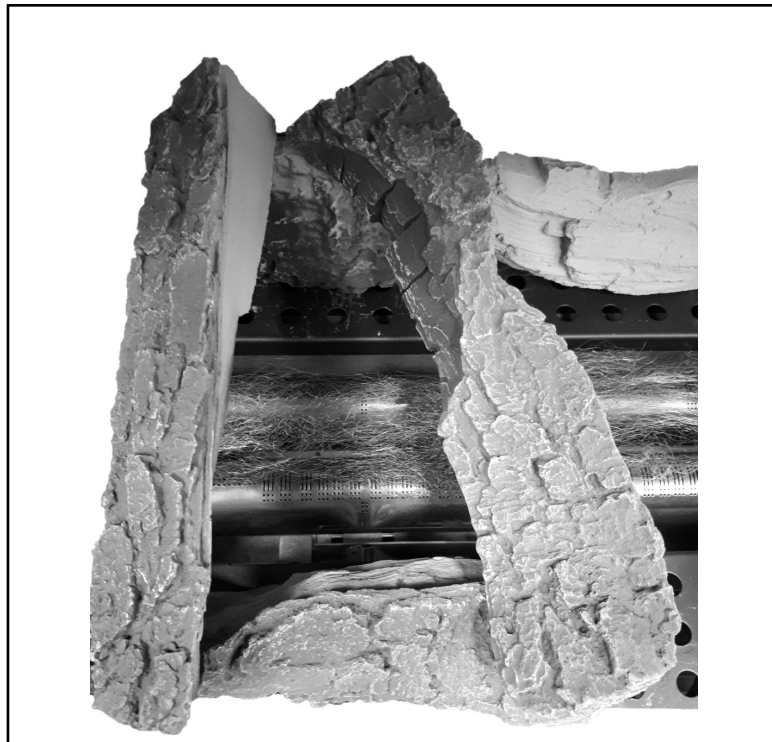

Fig. 10
10. Place Log '10' so that it is resting on Log '4' and to its rear on Log '2' as shown in fig.10.
Note: Ensure that there is a gap maintained from Log '9' as shown in fig.10.